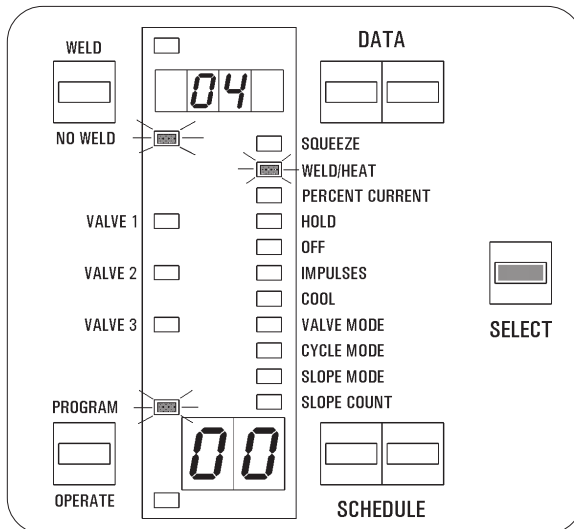

Figure 7-2. Select WELD/HEAT
3. Click the SELECT push button until WELD/HEAT parameter is reached (Figure 7-2).